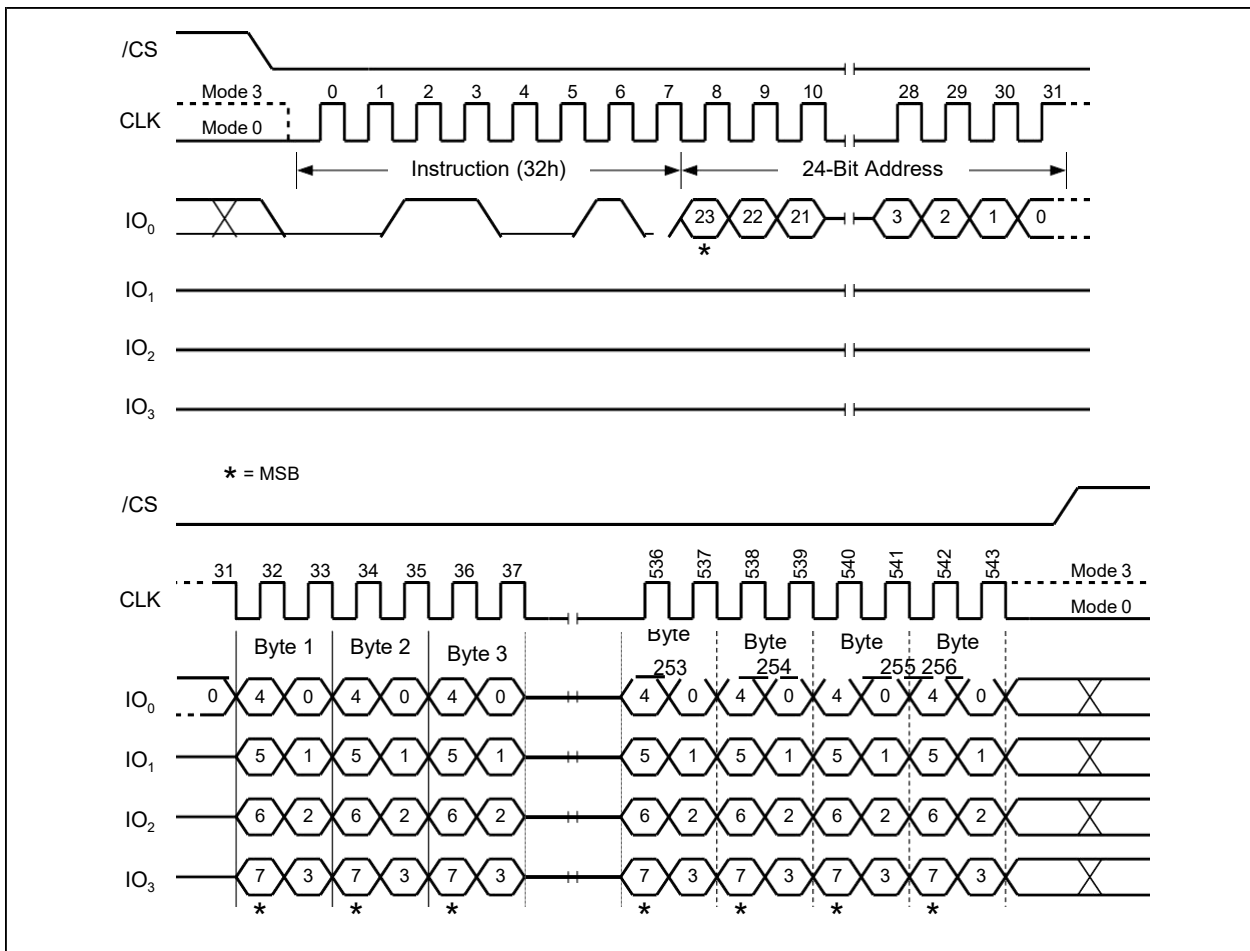

Figure 30. Quad Input Page Program Instruction (SPI Mode only)
To use Quad Page Program the Quad Enable (QE) bit in Status Register-2 must be set to 1. A Write Enable instruction must be executed before the device will accept the Quad Page Program instruction (Status Register-1, WEL=1). The instruction is initiated by driving the /CS pin low then shifting the instruction code “32h” followed by a 24/32-bit address (A₂₃/A₃₁-A₀) and at least one data byte, into the IO pins. The /CS pin must be held low for the entire length of the instruction while data is being sent to the device. All other functions of Quad Page Program are identical to standard Page Program. The Quad Page Program instruction sequence is shown in Figure 30.